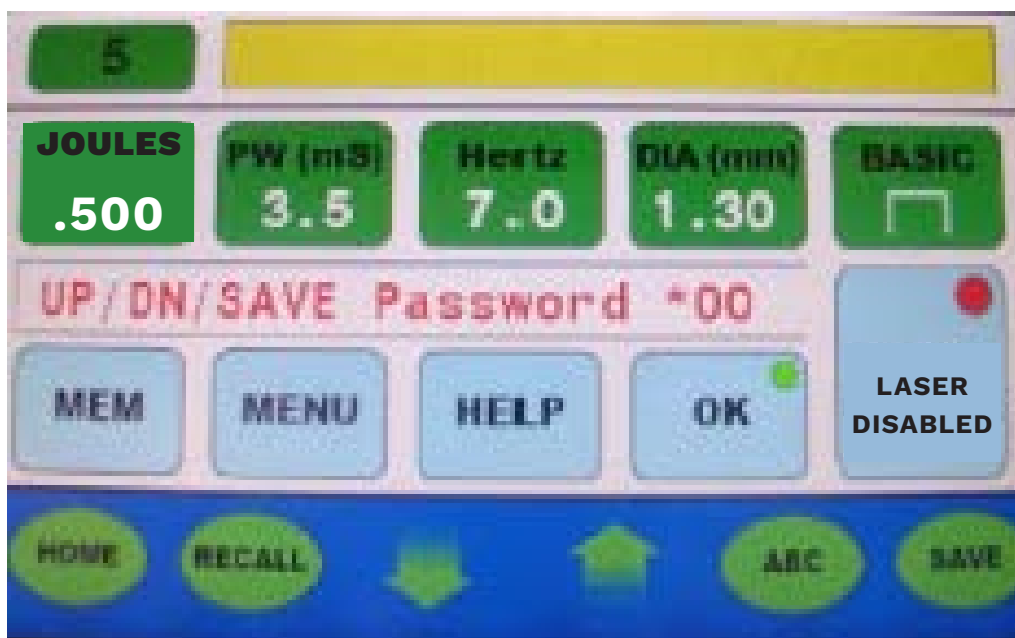

Figure 7
3. Press the **menu button** on the password screen; a (*) is inputted into the field for the first digit. Next, press the **up arrow** to assign the second number; the “3” will blink (**figure 7**).